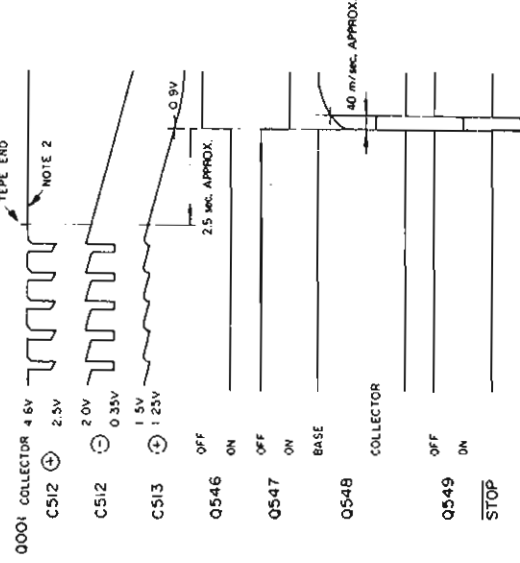

Fig. 5-5. Tape end sensing timing (Voltages represent typical values.)
the collector voltage of the photo transistor repeats ON and OFF operation as shown in Fig. 5-5. (As can be seen from the figure, the ON state of the photo transistor is not necessarily the ideal one.)
- 4) When the photo transistor is turned OFF, its collector voltage is increased by V with respect to that in the ON state. This voltage variation is transferred to the negative terminal of C512, where the potential becomes (DC clamp voltage) + (positive terminal voltage variation). As a result, voltages V and V appear repeatedly at the negative terminal of C512. The purpose of the DC clamp is described in following item (8).
- 8) The DC clamp circuit consisting of R555, Q584, and Q585 determines the upper limit of charging voltages to C513 and C524 while the photo transistor is turning ON and OFF. As shown in Fig. 5-5, the thresh-old level of the Schmitt circuit is located on a very gentle slope of the discharging curve of C513 and C524. Therefore, if the charging voltage is increased even slightly, the tape end sensing period will be increased remarkably. To prevent this, the DC clamp circuit the tape end sensing period to approx. less than 2.5 seconds.